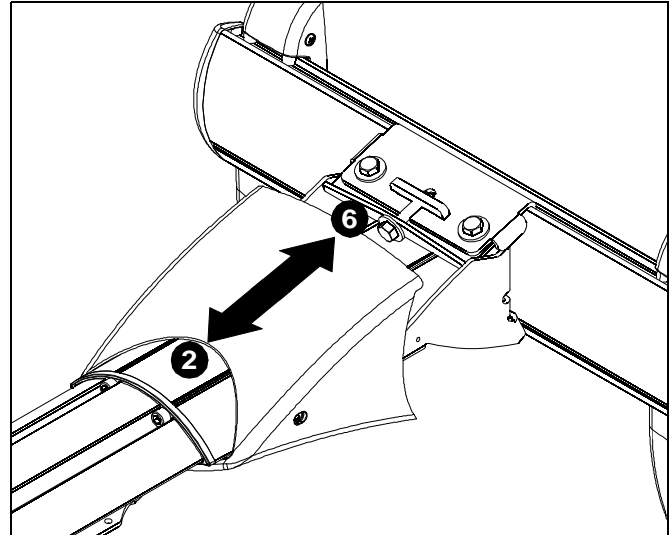

Figure 40
2. Slide outer cover of mount (A) away from mounting bracket. (See Figure 40)
6. Slide outer cover of mount (A) back against mounting bracket. (See Figure 40)